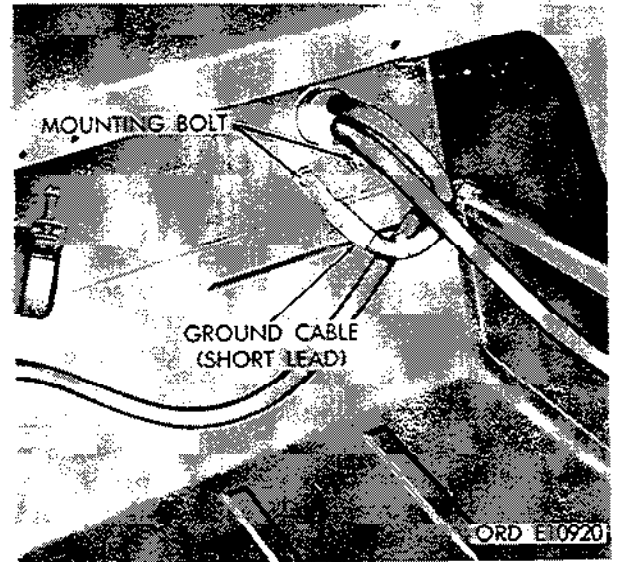

Figure 3-15. Slave cable installation-cowl channel.
c. *Slave Receptacle.* A slave electrical receptacle (fig. 3-15) located on the right cowl provides a means of starting the vehicle with a service cable connected to a cold-starting aid kit (slave kit).